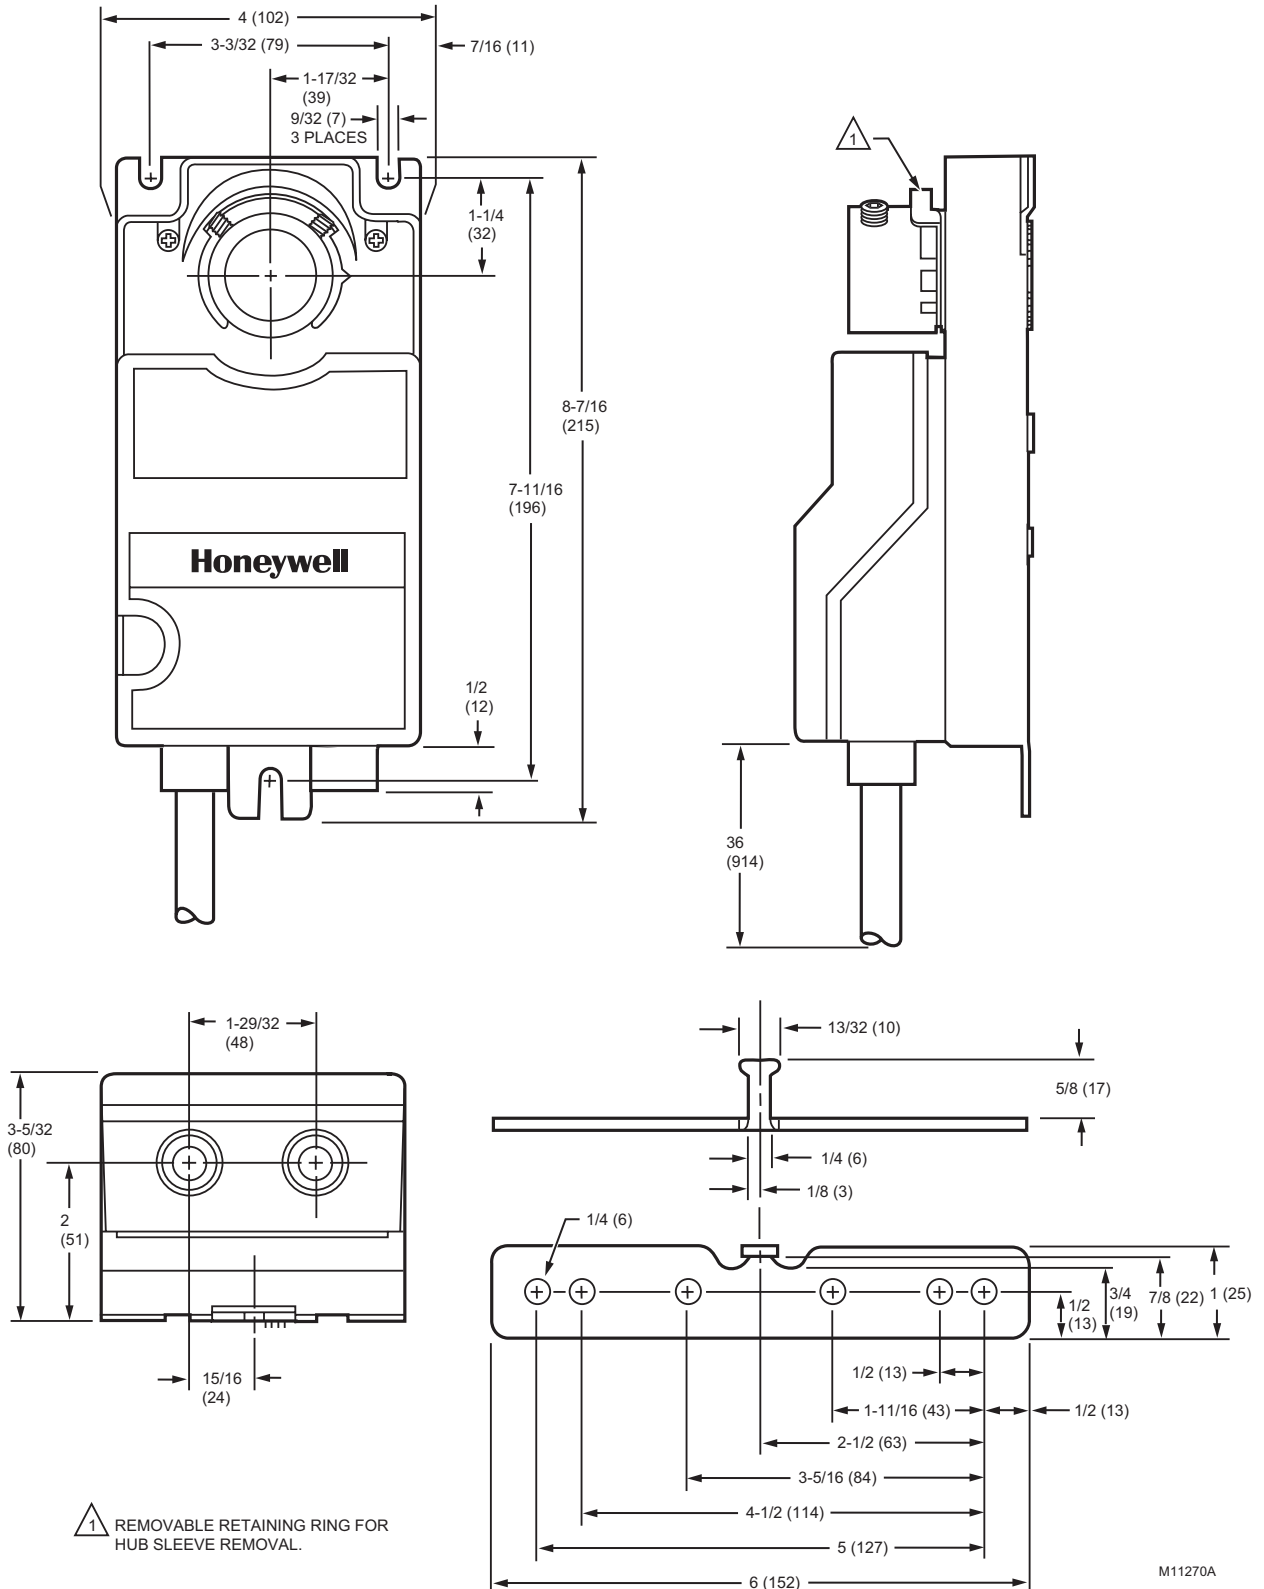

Fig. 2. Approximate dimensions of ML6194/ML6294 Non-Spring Return DCA and mounting bracket in in. (mm).
Dimensions: See Fig. 2.
The ML6194/ML6294 Non-Spring Return DCA is designed with removable hub inserts to accommodate specific shaft sizes. Proper insert selection is necessary to avoid excessive strain on output gear. All ML6194/ML6294 Actuators are shipped with a one-inch hub insert. For field use, two hub insert sizes are available (see Accessories section). A mounting bracket (see Fig. 2 and 3) is provided with all models to aid in installing actuator. The bracket can be bent to any shape to allow the bracket tab to be centered in actuator slot.
3. Install mounting bracket (see Fig. 2) and adjust it to center mounting bracket tab in actuator slot. Mark screw holes for installing mounting bracket on housing.